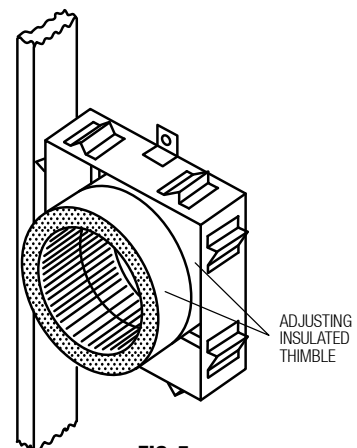

FIG. 5
12. The Saf-T Thimble adjusts to fit 4" - 8 1/2" wall structures. See Fig. 5.